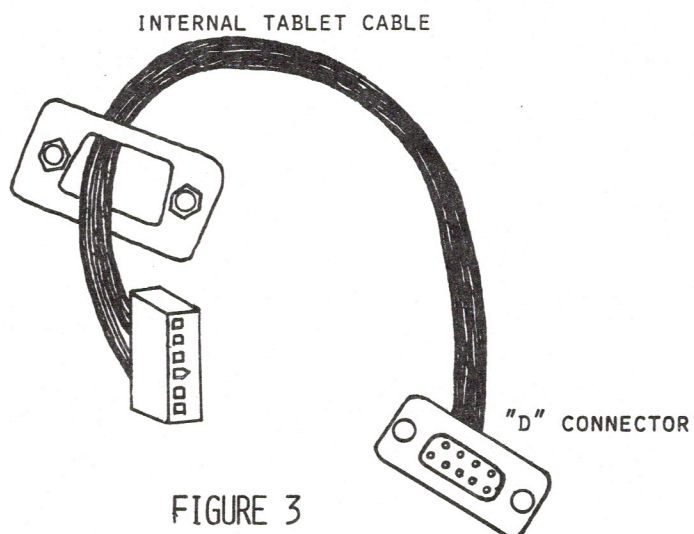

FIGURE 3
3. Now find the internal tablet cable and put its slip-on connector through the nut plate, with the nuts facing away from the "D"-shaped connector (See Figure 3).